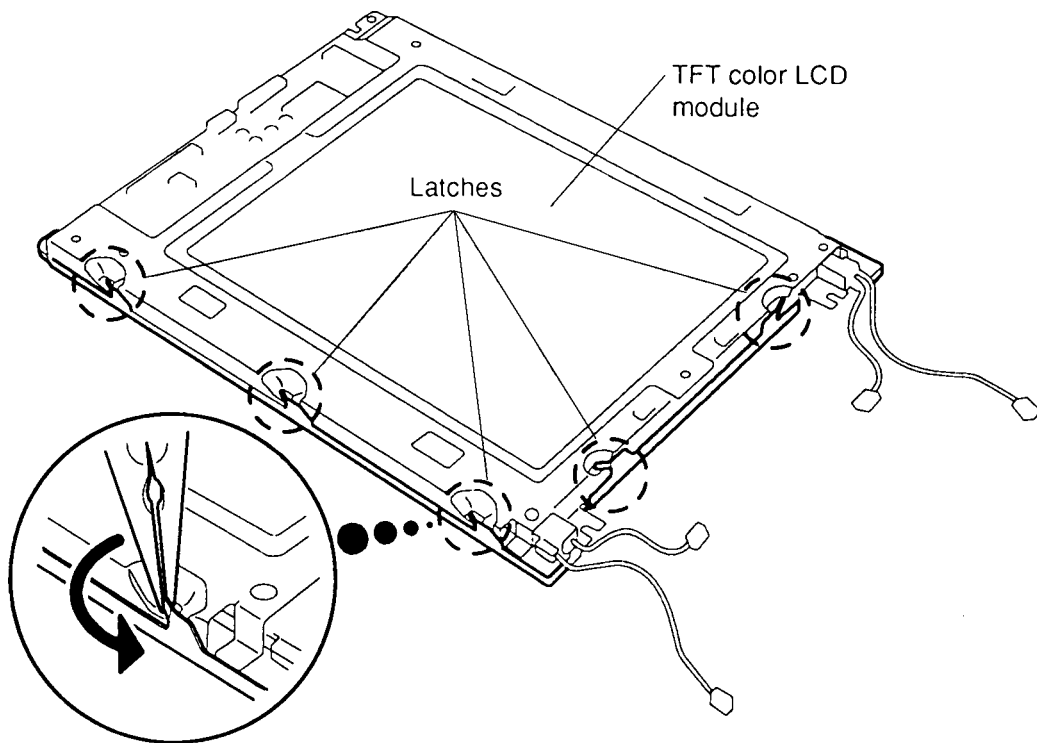

Figure 4-34 Unbending the TFT Color LCD Module Latches
To remove the T4500C's FL unit, follow the steps below and refer to Figures 4-34 through 4-37.
3. Lay the **TFT color LCD module** face down and use needle-nose pliers to unbend the **five latches** holding the front and back frames together and lift the unit out of the front frame (Figure 4-34).
To install the T4500C's FL unit, follow the steps below and refer to Figures 4-34 through 4-37.
4. Place the assembly in the front frame and carefully bend the **five latches** back into place (Figure 4-34).